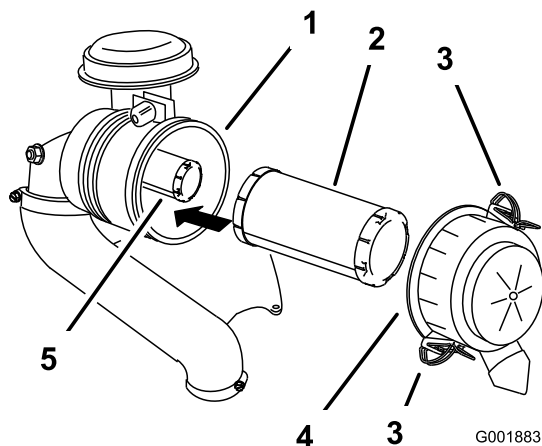

Figure 36
3. Release the latches on the air cleaner and pull the air-cleaner cover off the air-cleaner body (Figure 36).
5. Gently slide the primary filter out of the air-cleaner body (Figure 36).
2. If the safety filter is being replaced, carefully slide it into the filter body (Figure 36).
3. Carefully slide the primary filter over the safety filter (Figure 36).
4. Install the air-cleaner cover with the side indicated as up facing upward and secure the latches (Figure 36).